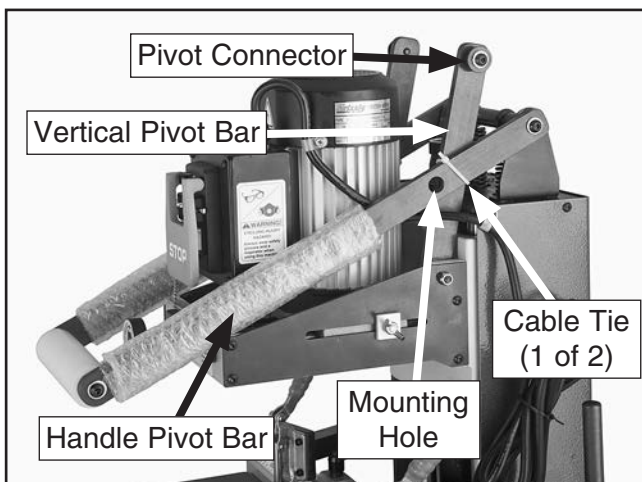

Figure 11. Cable ties and pivot connector.
2. Remove and discard the cable ties that secure the downfeed handle (see **Figure 11**).
3. Remove the fasteners from the pivot connector (see **Figure 11**), raise the handle pivot bar, and use the fasteners to secure the handle pivot bar to the vertical pivot bar through the mounting holes shown.